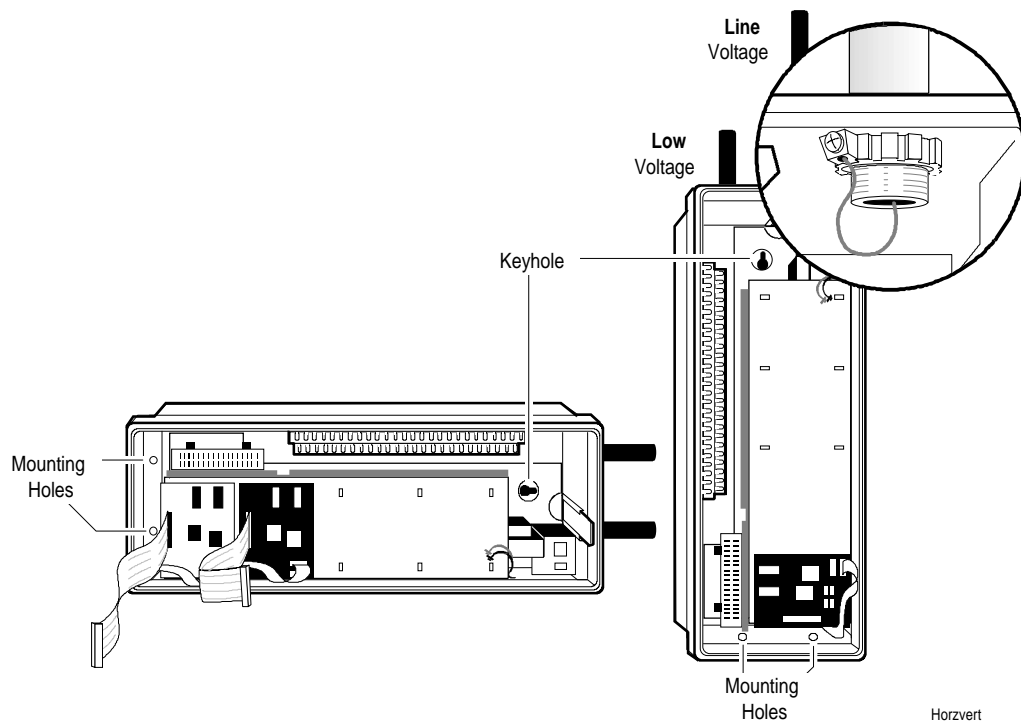

Figure 7: Mounting the PHX
1. Secure the PHX enclosure to the wall using the keyhole and two other mounting holes on the back. See Figure 7.
2. Using a hole saw or chassis punch, cut holes for the low voltage and line voltage conduits. When mounted vertically, the low voltage conduit is on the top left, and the line voltage is on the top right. See Figure 7. To pull wire with ease, use a minimum one inch conduit.